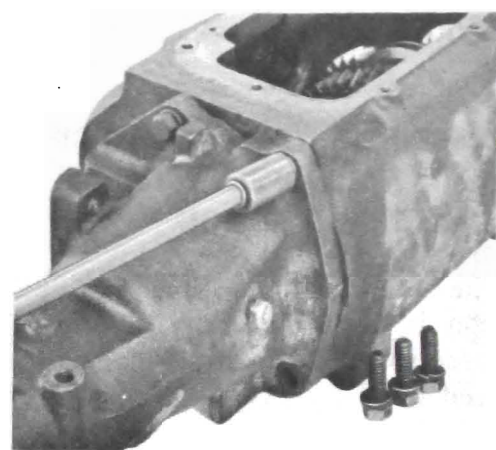

Figure 72-301 Removing Extension to Case Bolts
2. Remove extension housing-to-case attaching 5/8" bolts (5). See Figure 72-301.